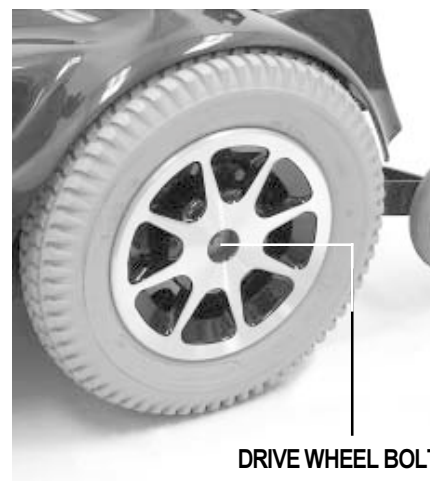

Figure 29. Drive Wheel
2. Use a 3/4-in. wrench to remove the drive wheel bolt from the center hub of the wheel. See figure 29.